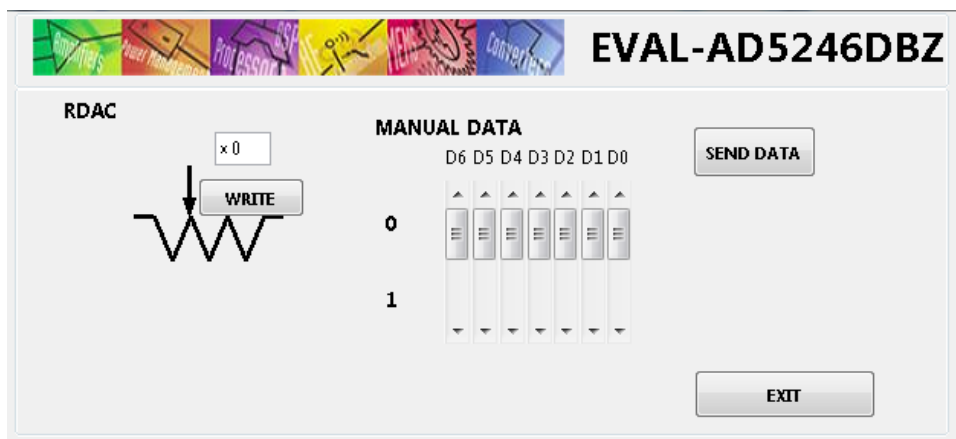

Figure 7. EVAL-AD5246DBZ Evaluation Board Software Main Window
3. The main window of the EVAL-AD5246DBZ evaluation software then opens, as shown in Figure 7.